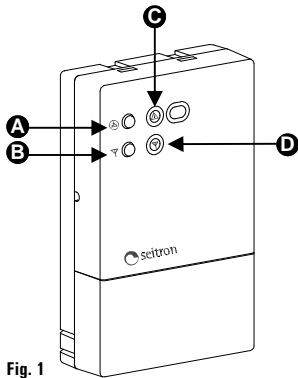

Fig. 1
LED (C) e (D) in Fig. 1)
PULSANTE TEST "⊕" (A in Fig. 1)
PULSANTE AUTO-APPRENDIMENTO "∇" (E in Fig. 1)